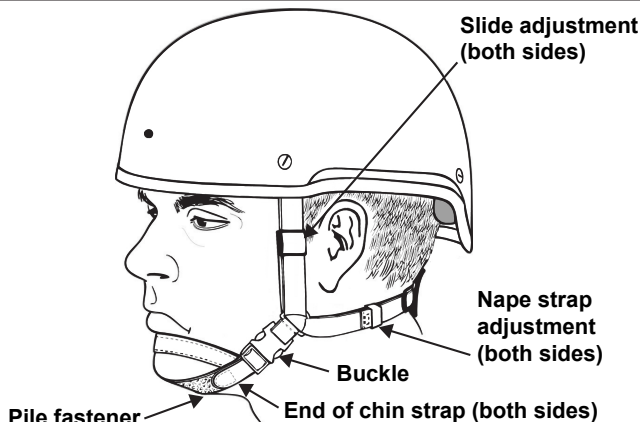

Figure 11. X-style Retention Adjustment
1. Referring to **Figure 11**, do the following:
2. If the retention straps seem too long or too short, refer to **Figure 11** and move the slide adjustments up or down.